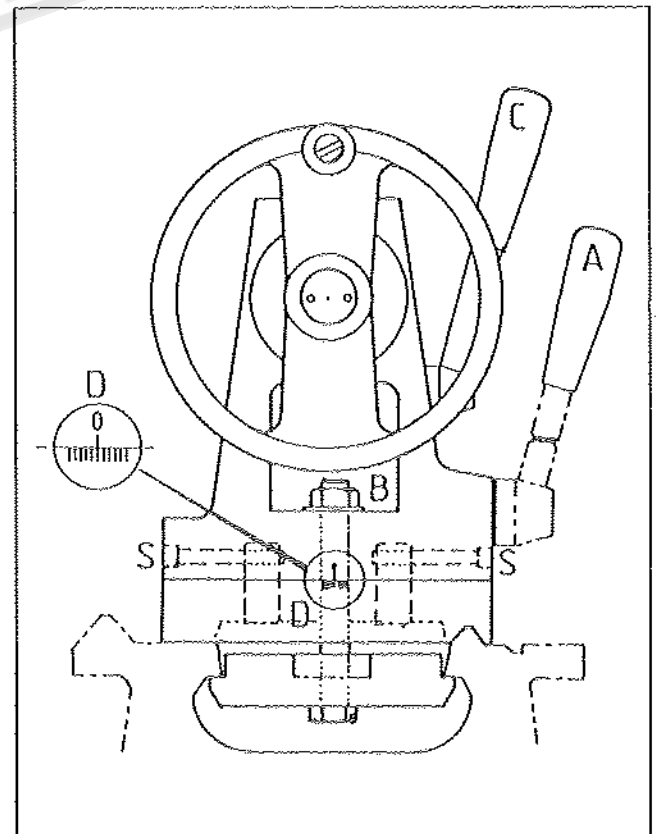

Fig.17
The tailstock can be set-over for production of shallow tapers or for re-alignment. Release the clamping lever and adjust screws (S) at each side of the base to move tailstock laterally across the base. An indication of the set-over is given by the datum mark (D) at the tailstock end face, as shown in (Fig. 17). Apply the clamp lever after adjustment of set-over.